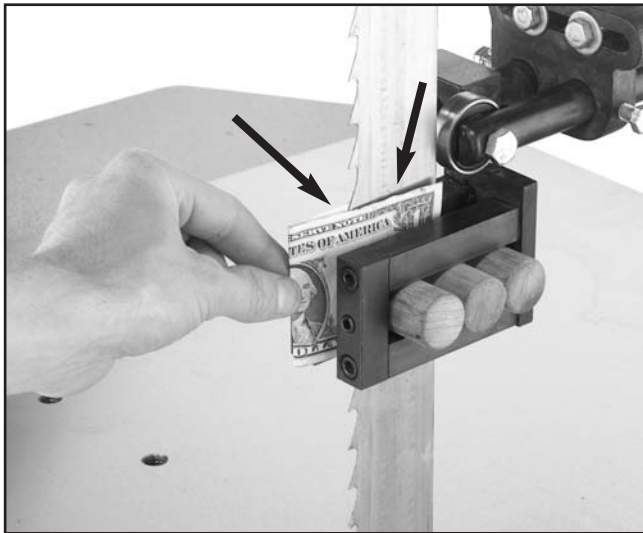

Figure 12. Single thickness of a dollar on each side of the blade.
3. Fold a dollar bill once and slide it over the blade so each side is between blade and the blade guides as shown in **Figure 12**.